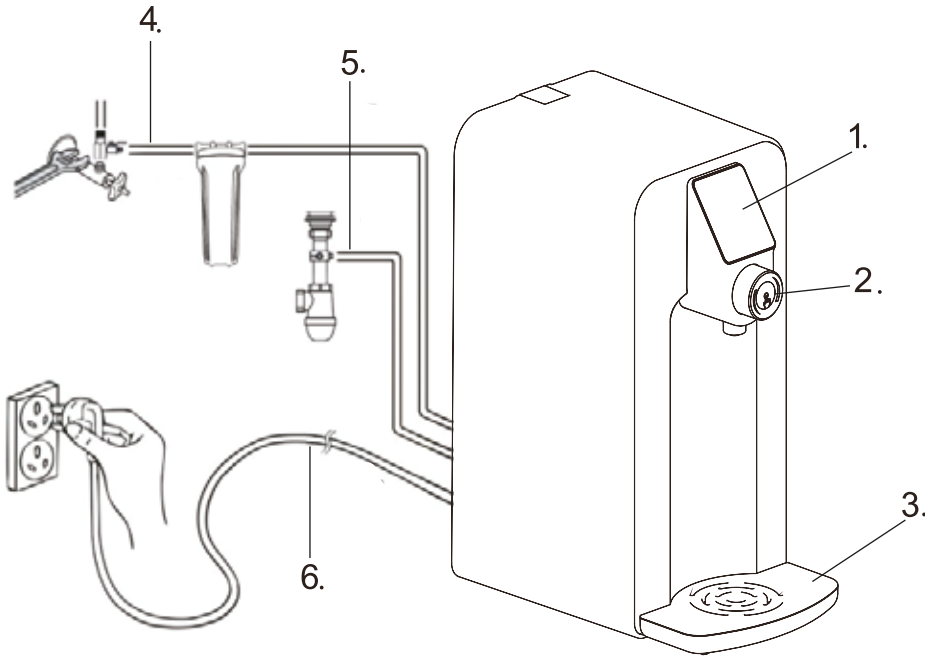
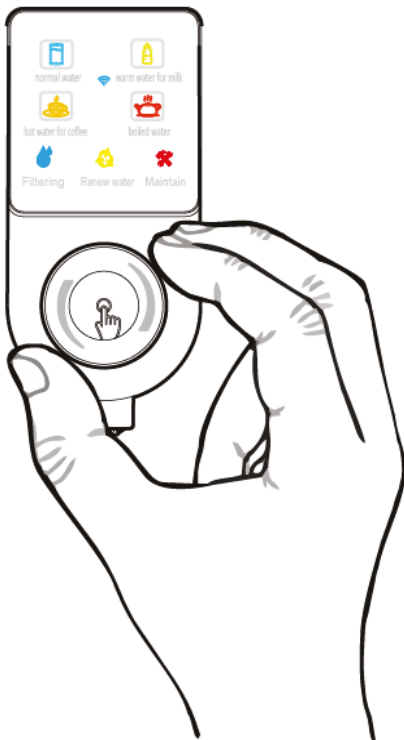
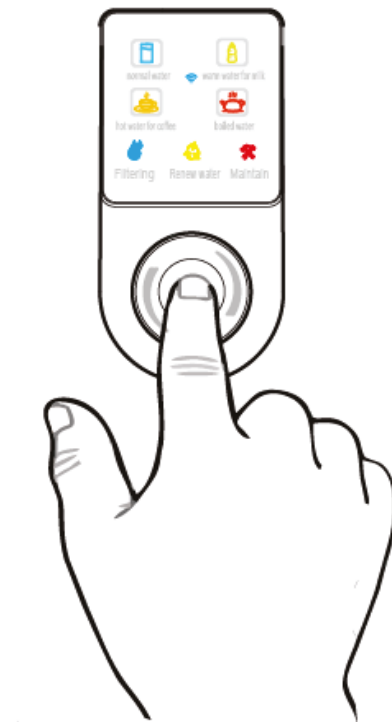

FIGURE 1
FIGURE 3
FIGURE 4
- Insert the power plug into the socket (see Figure 1). The system will beep and light up which indicates the machine is ready to use.
- Place the water container on the tray (see Figure 1). Rotate the knob to select the desired water temperature (Figure 3), and then click on (or push on for 3 second) the middle part of the knob (see Figure 4) to dispense one cup (or bottle) of water. Click the knob again if you want to stop getting water. Note: the system will automatically stop water after 30 seconds if you do not click the knob and will automatically stop after 60 seconds if you hold the button for 3 seconds.